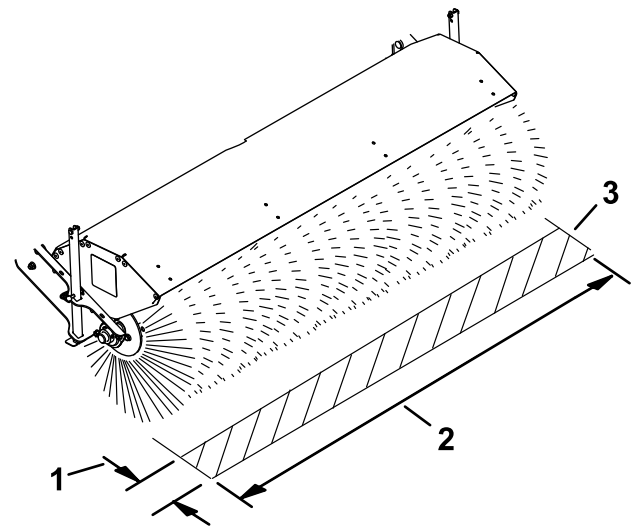

Figure 16
5. Make sure that the area swept equals the length of the broom and a maximum width of 51 to 102 mm (2 to 4 inches) as shown in Figure 16.